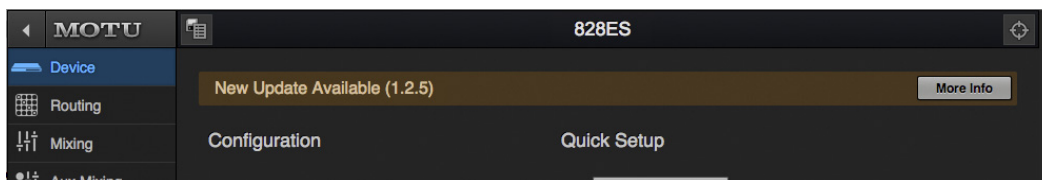

Figure D-1: The firmware update banner appears across the Device tab when your web host has internet access and MOTU posts an update.
- 3 In the *New Update Available* banner (Figure D-1), click *More Info*.